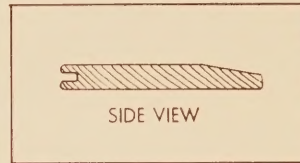

FIG. 8
Step 7: Where the Wood-Mosaic block is installed next to rubber tile, asphalt tile or other types of resilient floor covering, or where there is any appreciable difference in elevation between the new floor and old floors in adjoining rooms, the Wood-Mosaic $\frac{1}{2}$ " to $\frac{1}{8}$ " beveled reducing strip can be used. This strip is two inches wide and can be procured in any length you wish. (See Fig. 8)